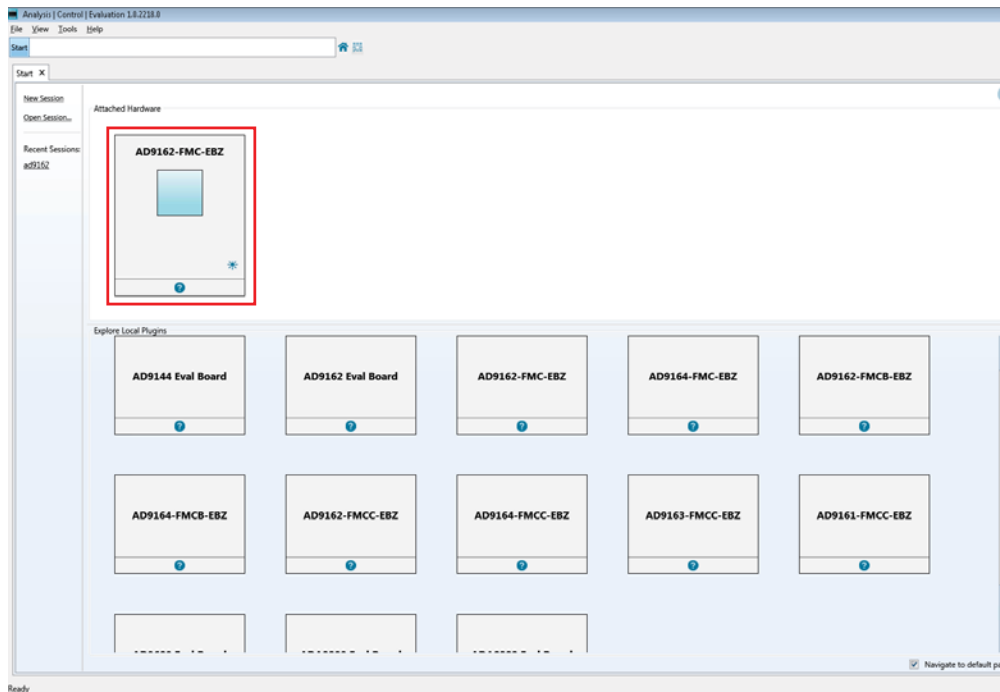

Figure 5. ACE Software Window
2. Open the ACE software from **Start > Programs > Analog Devices > ACE**. A window appears, as shown in Figure 5.
3. Open the evaluation board view by double clicking on the **AD9162-FMC-EBZ** evaluation board icon as shown in Figure 5.
1. Open the ACE software from **Start > Programs > Analog Devices > ACE**. A window appears similar to Figure 5.
2. Open the evaluation board view by double clicking on the AD9161, AD9162, AD9163, and AD9164 evaluation board icon as shown in Figure 5.